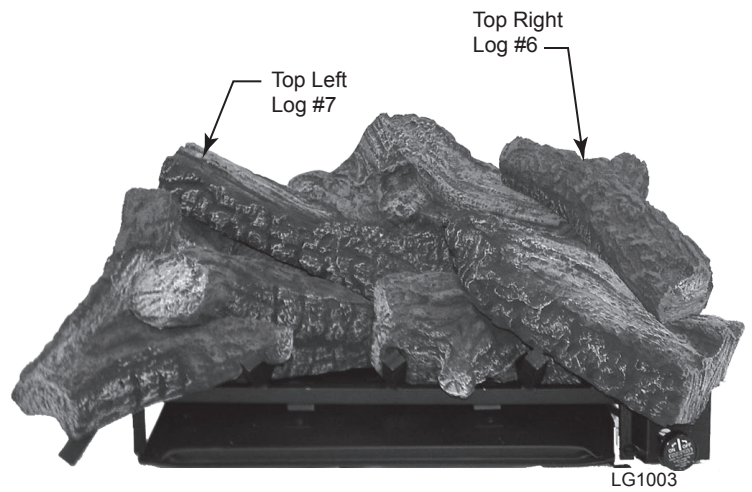

Figure 43
- 6. Rest top right log (#6) on back log and bottom right log. *Figure 43*
- 7. Place top left log (#7) on bottom left log. *Figure 43*